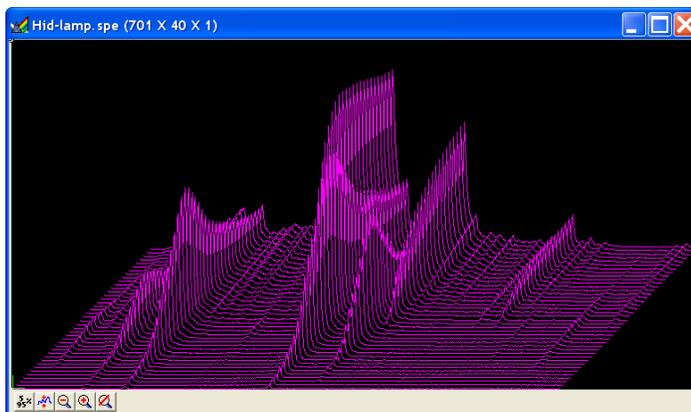

Figure 50. High Intensity Lamp Spectrum
5. Either double-click on the name of the file you want to open or single-click on the name and then click on the **Open** button. For example, with **3D Graph** selected, double-clicking on Hid-lamp.spe would open that file, producing the display shown in Figure 50. Note that there are many different ways of controlling how the image will be displayed,